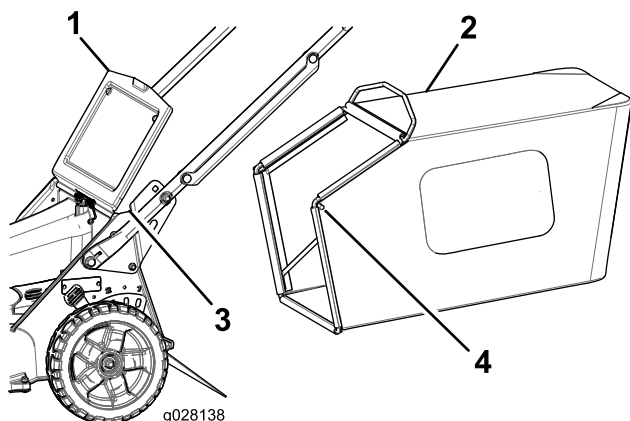

Figure 16
2. Raise and hold up the rear door (Figure 16).
4. Install the bag-rod ends into the notches at the base of the handle, and rock the bag back and forth to ensure that the bag-rod ends are seated at the bottom of both notches (Figure 16).
3. Remove the bag rod on the grass bag from the notches at the base of the handle (Figure 16).